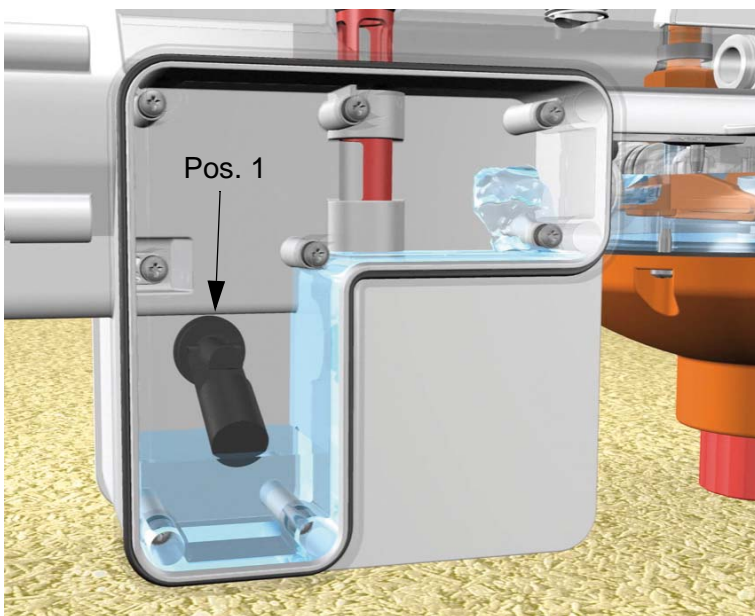

Fig. 3: Schematic illustration of the circulation unit
A float switch inside the presettling tank (fig. 3, pos. 1) stops the pump as soon as it is empty (e. g. when the water is turned off). Thus, it prevents the pump from running dry.